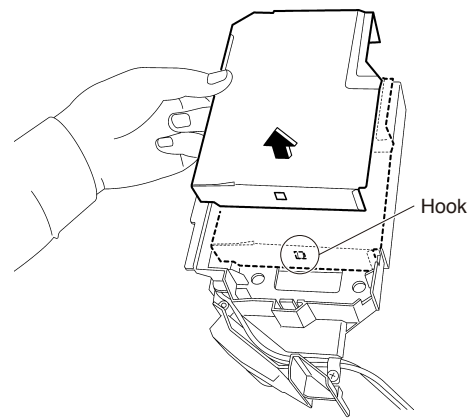

Fig. 26
(2) Unfasten the hook at the lower position, and remove the shield plate 1. (Fig.26)